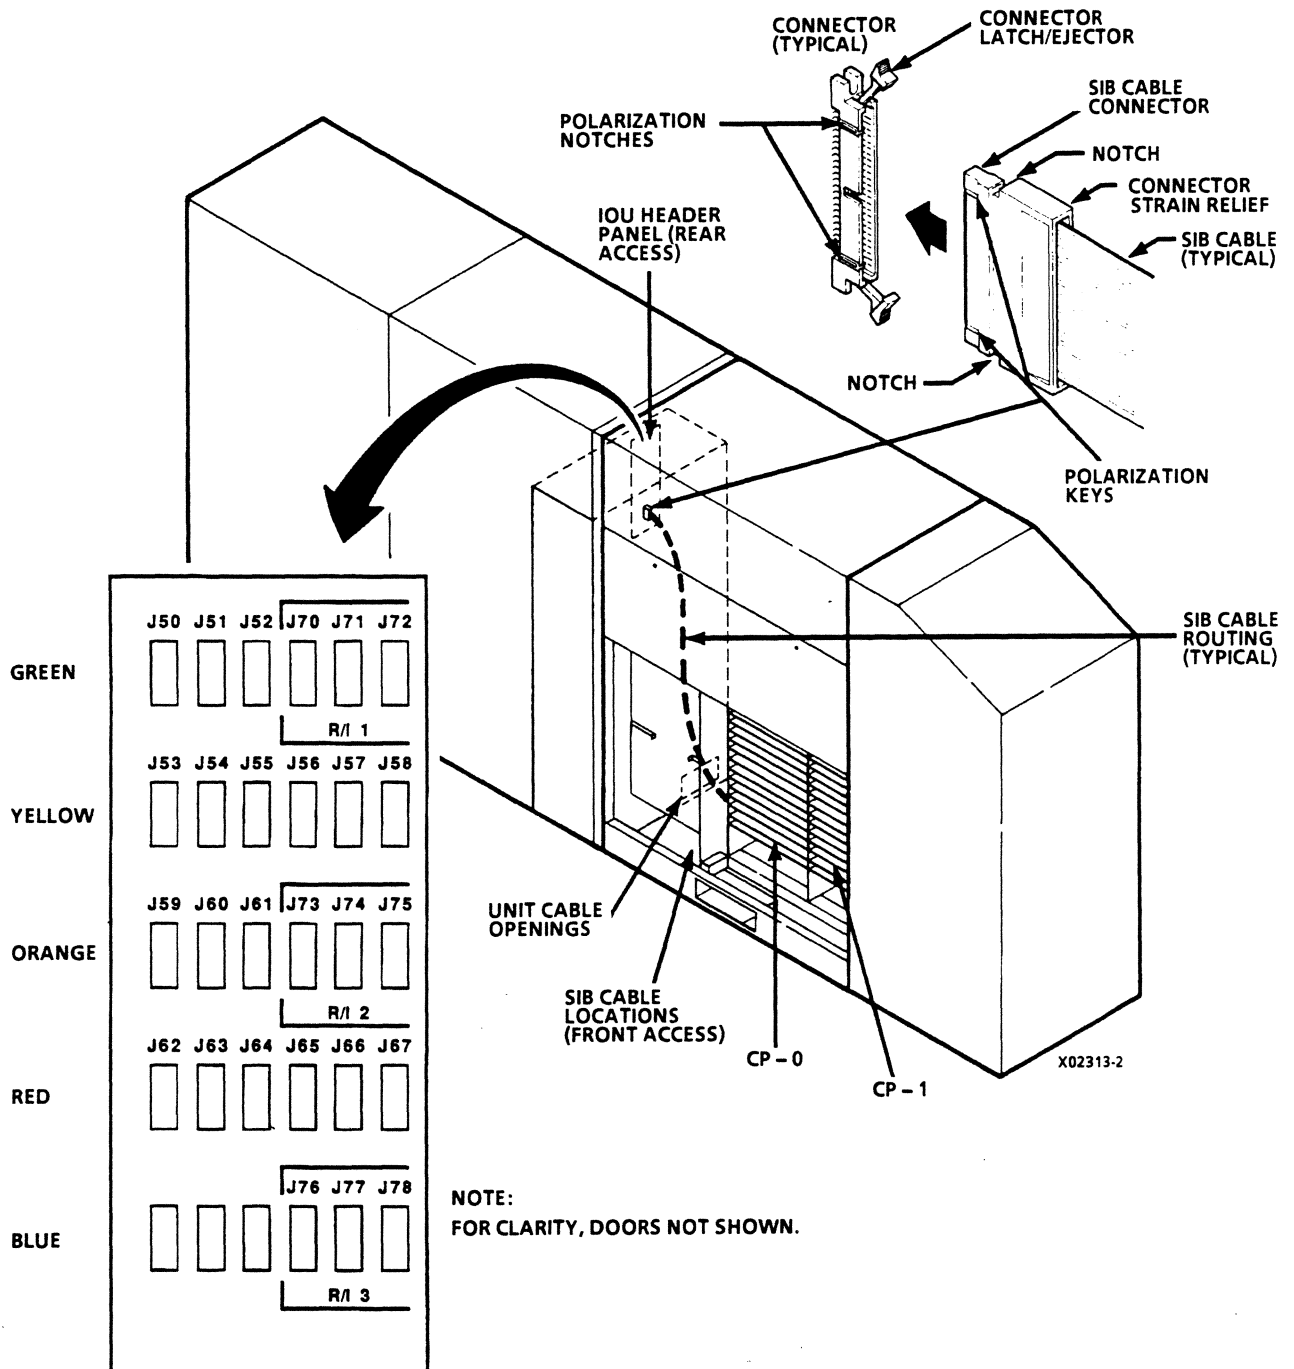

Figure 3-31. CP-1 SIBC to IOU Cabling
- ___ 10. Route cables through unit cable openings into IOU (figure 3-31). Place cables against ribbon cable support plate.